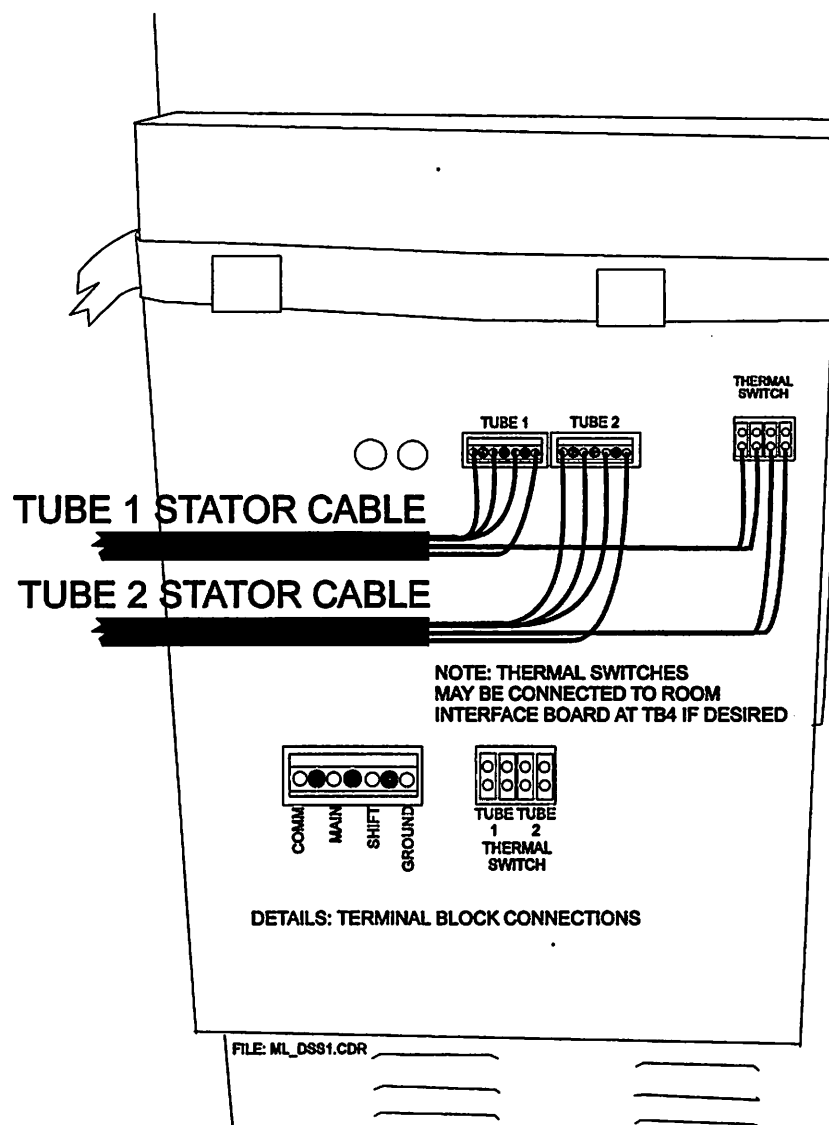

Figure 2-14: Dual speed starter connections to generator
Refer to figure 2-14. This section applies only to units fitted with dual speed starter.
2. Connect the wires as per figure 2-14.